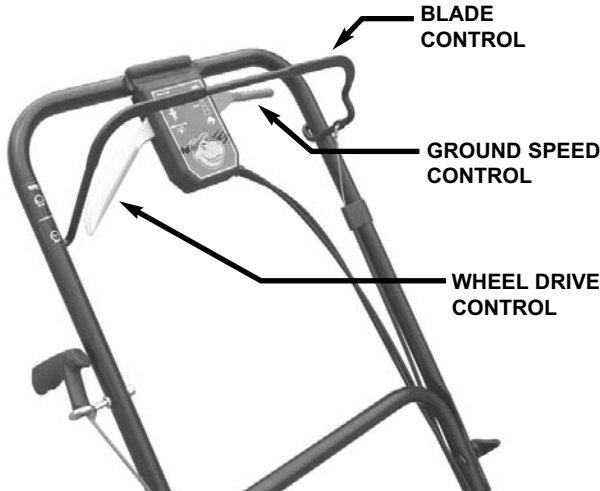

FIGURE 2.1
**2.1.2.** Check blade control, wheel drive control, and ground speed control to insure they work freely. See Figure 2.1.